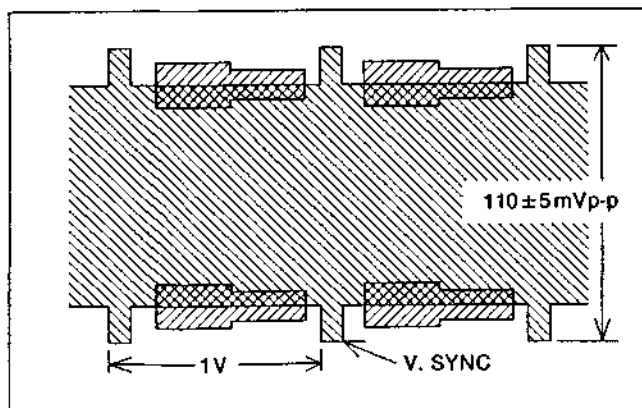

FIG. E15
4. Adjust VR3104 for $110 \pm 5 \text{ mVp-p}$ as shown in FIG. E15.